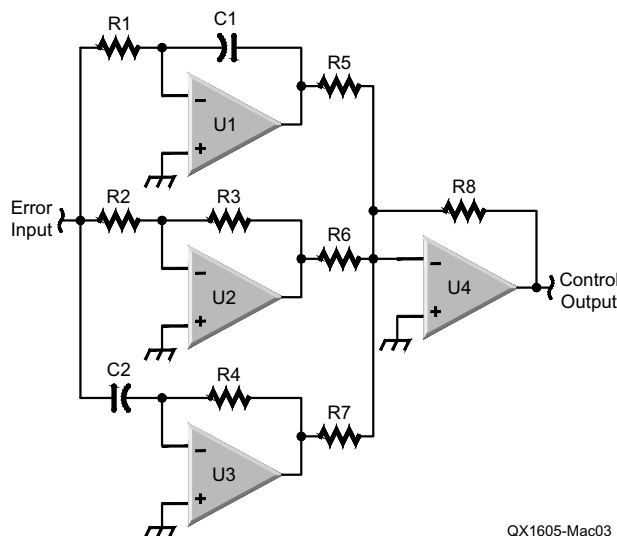

Figure 3 – A representative op-amp circuit that implements the PID control.
Figure 3 shows an op-amp circuit that implements a hardware system with the performance of Eq. (1), and implements the control equation block from Figure 1. The top op-amp implements the integral term with the *a* parameter set by the ratio of C1/R1. The middle op-amp is a standard inverting amplifier where *b* is set by the ratio